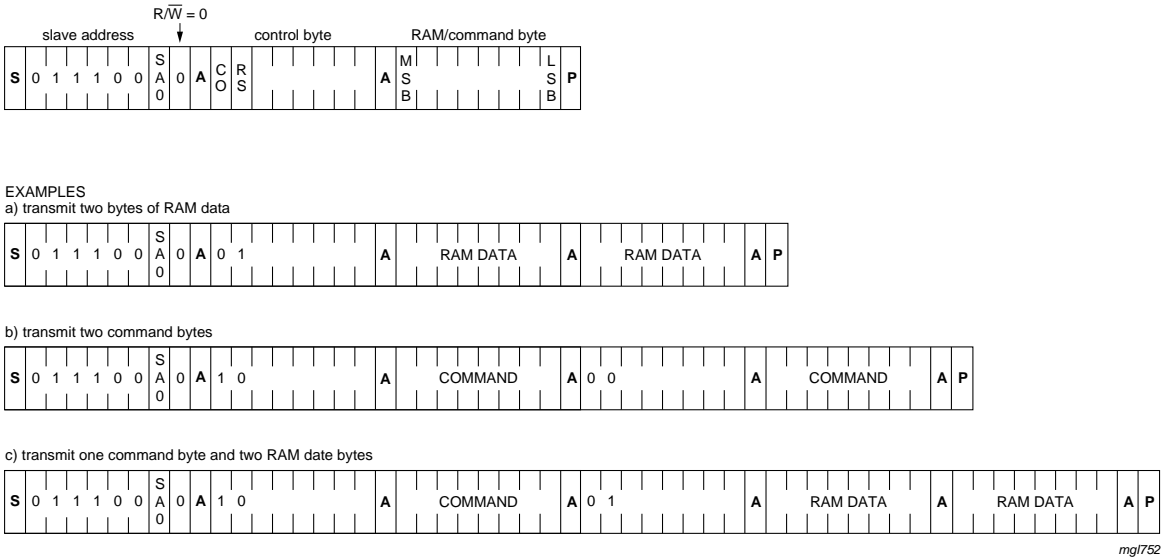

Fig 20. I²C-bus protocol
The I²C-bus protocol is shown in Figure 20. The sequence is initiated with a START condition (S) from the I²C-bus master which is followed by one of two possible PCF8533 slave addresses available. All PCF8533 whose SA0 inputs correspond to bit 0 of the slave address respond by asserting an acknowledge in parallel. This I²C-bus transfer is ignored by all PCF8533 whose SA0 inputs are set to the alternative level.